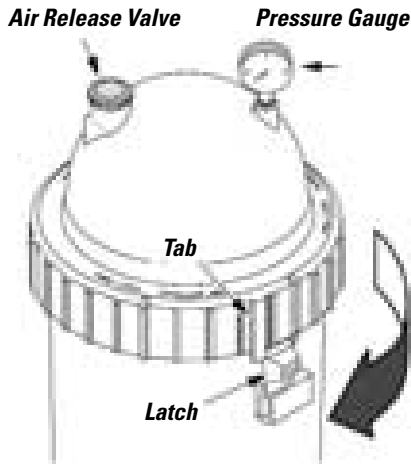

Fig. 2 – Rotate Posi-Ring™ until tab locks behind the safety latch.
1. Securely lock the Posi-Ring™ in place by rotating it CLOCKWISE until it »clicks« past the safety latch (see Figure 2). Stop turning as soon as the ring clicks past the latch. The ring may feel slightly loose, but it will tighten up when pump is on and filter is under pressure.
2. Install the pressure gauge and the air release valve (see Fig. 2) on the tank lid.
- C.** Rotate the Posi-Ring™ clockwise until it locks behind the safety latch (see Figure 2).